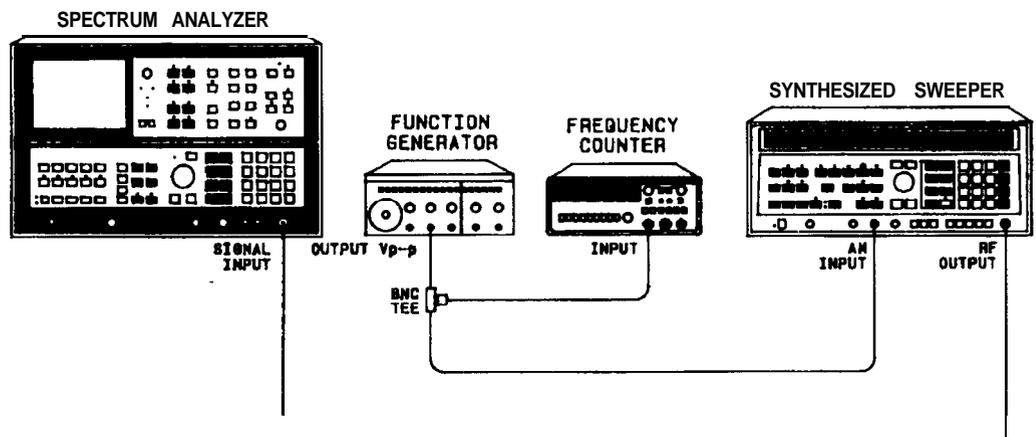

Figure 2-33. **Fast** Sweep Time Accuracy (<20 ms **Test** Setup)
1. Connect equipment as shown in Figure 2-33.